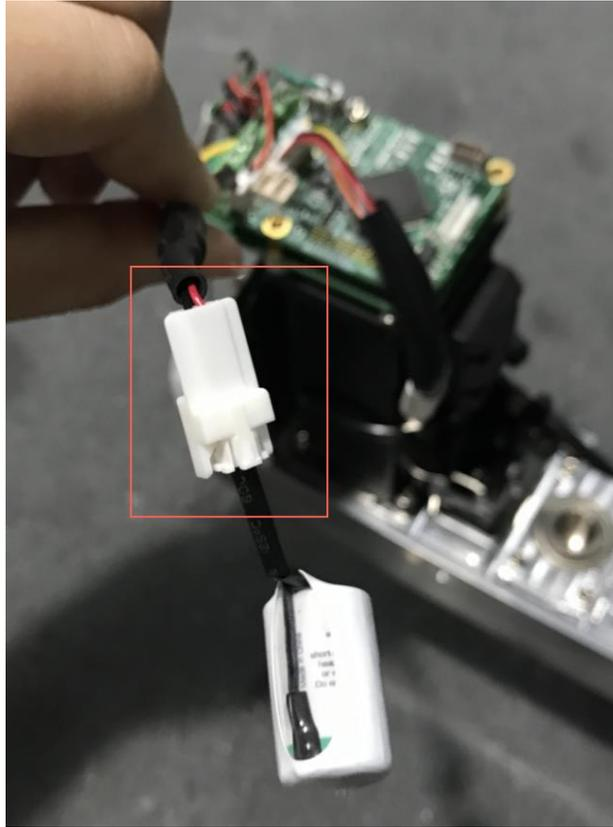

Figure 7.9 Disconnect the battery to the batter adapter
3. Remove the original battery and disconnect the connector of the battery to the battery adapter cable, as shown in Figure 7.9.